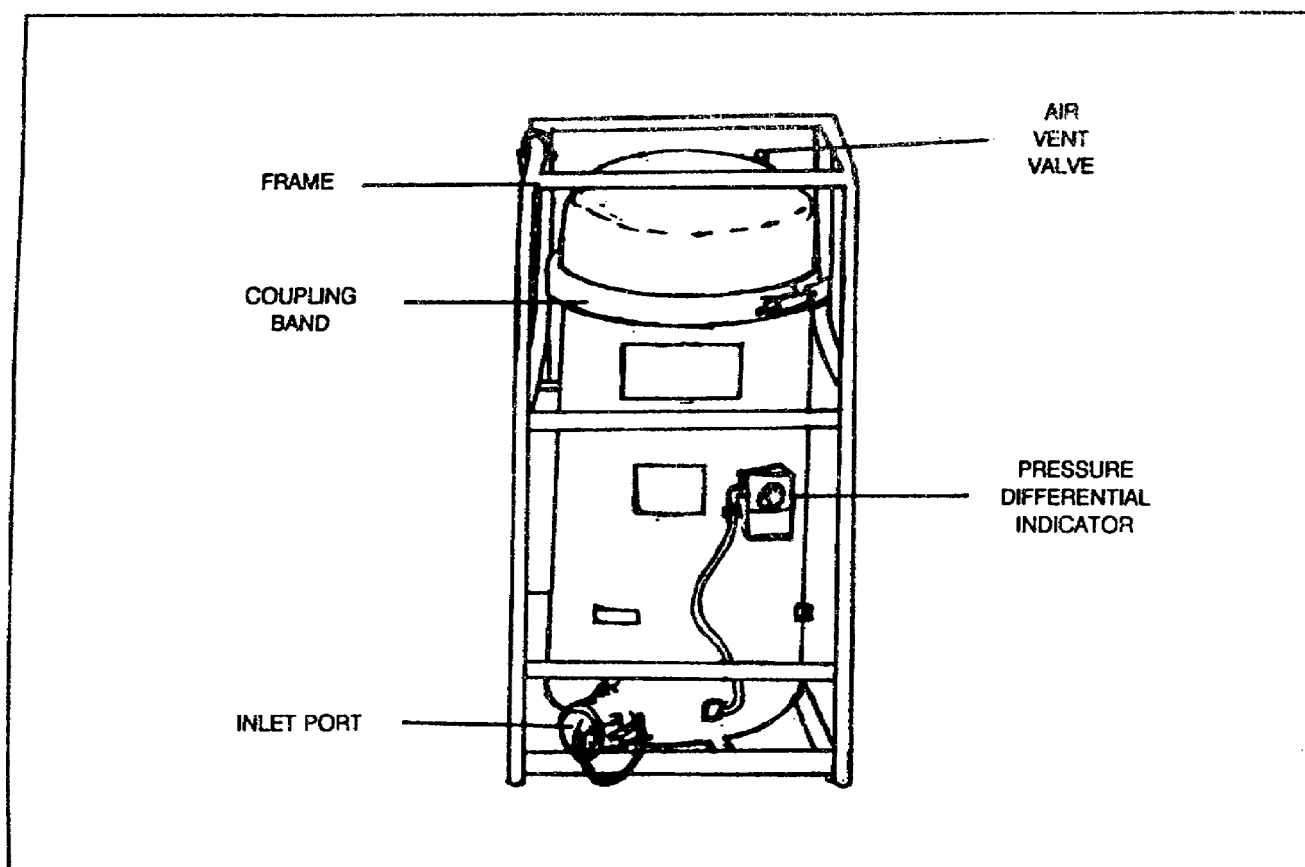

Figure 1-3. 100-GPM filter/separator
a. Description. The 100-GPM filter/separator (shown in Figure 1-3) has an aluminum tank with a removable cover. Its female inlet has a dust plug. Its male outlet has a dust cap. Five filter elements, each in a canister, sit on a mounting plate near the bottom of the tank. The filter/separator is mounted on a tubular aluminum frame. The filter/separator has an air vent valve, a pressure differential indicator, a sight glass, and a manually operated water drain valve. A float ball in the sight glass shows how much water is in the tank. The ball sinks in fuel but floats in water. The pressure differential indicator shows when to change the filter elements. A reading in the green (0 to 20 psi) means the elements are clean. Change the elements at the end of the day's operation when a reading is in the yellow (20 to 35 psi). Change the elements at once when a reading is in the red (35 psi and up).